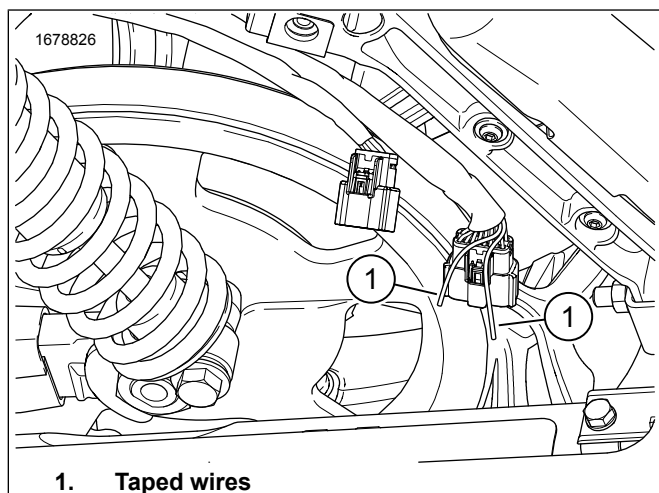

Figure 2. Saddlebag Wires
2. See Figure 2. Locate Original Equipment (OE) 16-way connector [C288B_1].